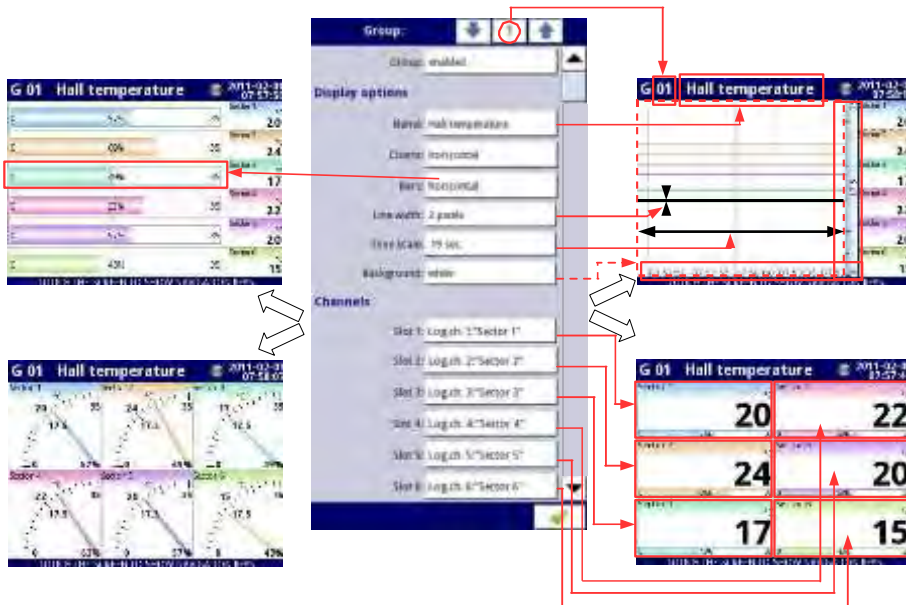
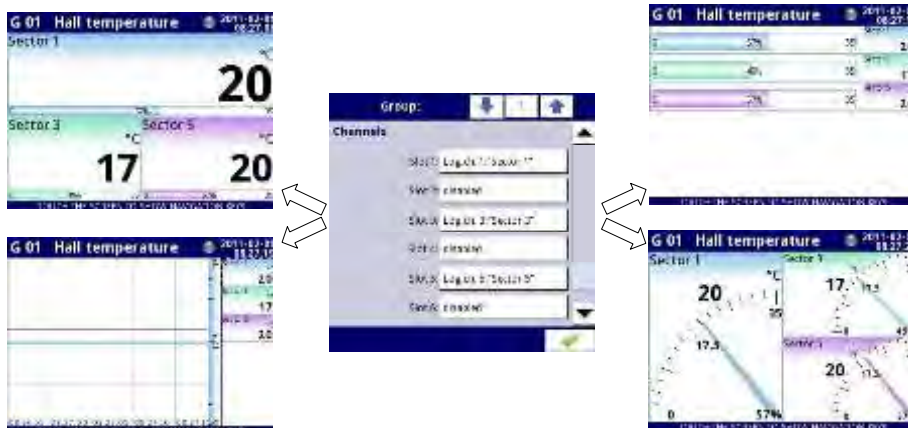

Fig. 7.119. Sample of Group parameters settings - all Slot set to Logical channel
Fig. 7.121. Sample of Group parameters settings - Slots set to Logical channel and set to disabled
- Slot 1÷6 - in each slot user can select a option (see Fig. 7.119÷Fig. 7.121):